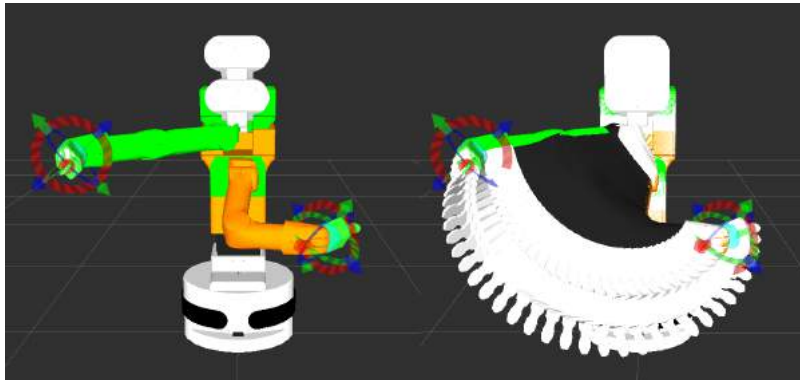

Figure 91: Sequence of plan
5. The sequence of images in figure 91 shows the result of a clicking “Update” goal pose with random in RViz, then clicking “Plan and Execute” in the simulator. RViz will visualize the plan before executing.